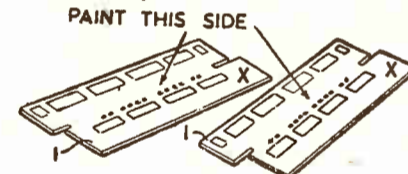

Fig. 1—Painting the sides
Now fit the sides to the top floor (No. 2) so that the painted sides are facing each other. This will bring the extending pieces marked X in Fig. 1 at opposite ends of the floor. Now glue in place the lower floor (3) pieces 4 and 5, and